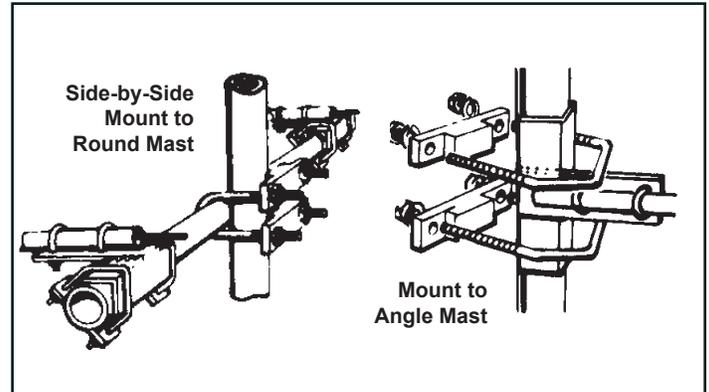
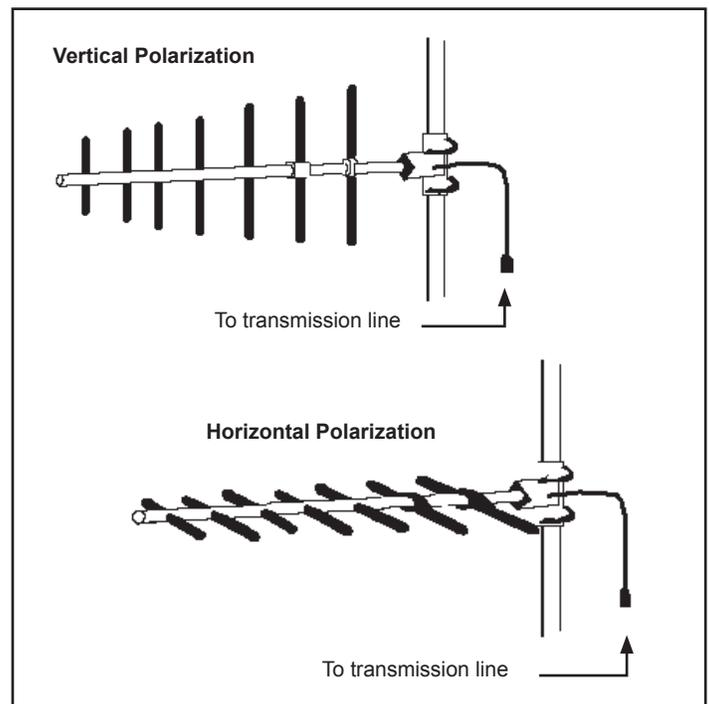

Figure 2 - Mounting to a Mast
Figure 3. Vertical and Horizontal Polarization (DB499 shown).
These antennas can be mounted on an angle or round mast, or at the top or on the side of a tower or wooden pole (Figure 2). This unique mounting arrangement permits either vertical or horizontal polarization, as well as rapid azimuth orientation (Figure 3).
1. From the center of Antenna #1, measure down the tower distance "A" shown in Table 1. This is the mounting location for the center of Antenna #2. (In side-by-side mounting, the two antennas should be separated by distance "A".) Make sure the "UP" arrow on the feed dipole is positioned properly. Refer to Figure 2 for attaching antennas to mast.
distance "A".) Make sure the "UP" arrow on the feed dipole is positioned properly. Refer to Figure 2 for attaching antennas to mast.
2. Measure down the tower distance "A" from the center of Antenna #2 to determine the mounting location for the center of Antenna #3. Mount Antenna #3. Repeat for Antenna #4. Refer to Figure 2 for attaching antennas to mast.